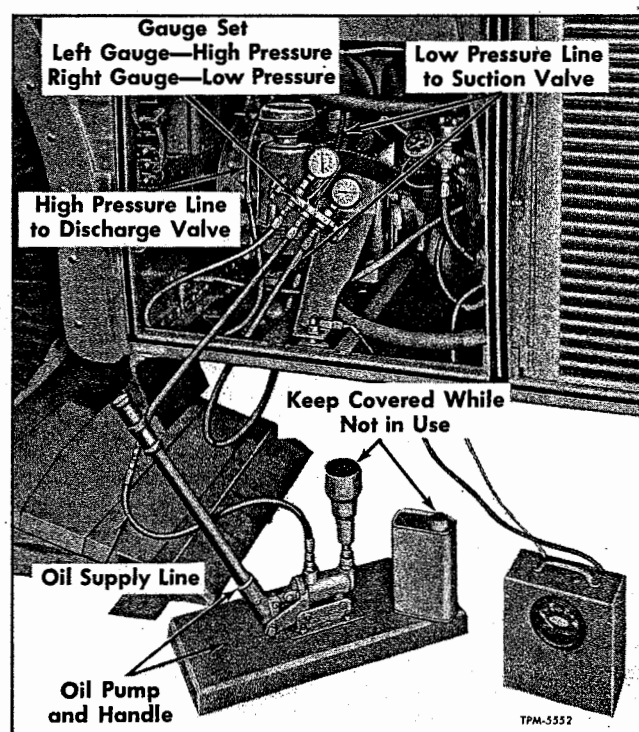

Figure 7—Method of Adding Compressor Oil
1. Referring to figure 7, connect the high pressure line from the gauge set to discharge valve of compressor and connect the low pressure line to compressor suction valve.